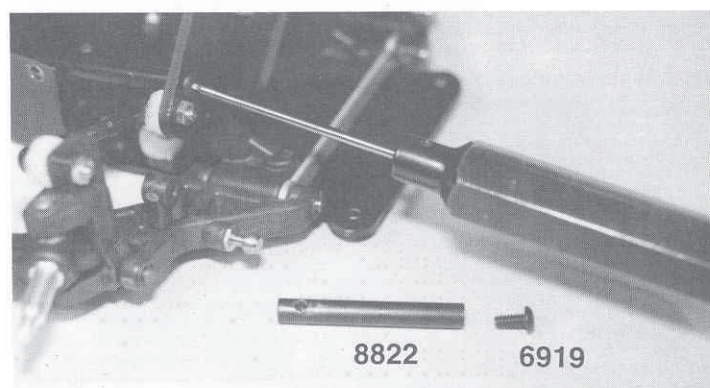

Fig. 30
□ **Figs. 30 & 31** 1) Now from bag #8-1 take out the two #8822 aluminum nose brace tubes, two #6285 4-40 x 1/4" socket head cap screws, and two #6919 4-40 x 5/16" button head socket screws. 2) Now look at the two #8822 nose brace tubes. You will see that on one end there is a hole drilled through the side that is threaded. This will be the back end of the tube. If you look at the front end of the tube you will see that the inside hole is threaded. 3) Install the button head screw into the front of the shock strut. Use the right side hole of the strut (next to the ball end) so that the screw threads come out the back of the shock strut. 4) Now line up the threaded end of the nose brace tube and thread the tube onto the button head screw. Leave a little play so we can line up the other end easily. 5) Now install one of the 4-40 x 1/4" socket head cap screws through the hole in the side of the chassis and thread it into the side of the nose brace tube. You may have to rotate the nose brace tube so that the screw and hole can line up correctly. Again, do not tighten this screw just yet. 6) Now repeat the above steps and install the second nose brace tube on the other side of the chassis and shock strut. Make sure you still leave these screws a little loose until both sides are installed, then you can go back and tighten all four screws.